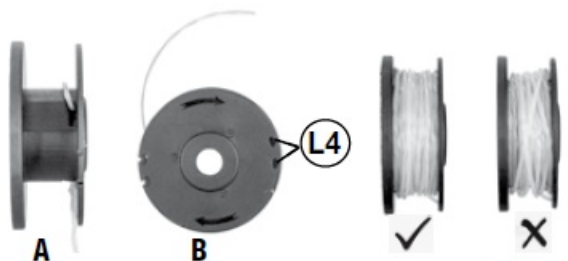

FIG 12
LINE REPLACEMENT (FIG 12)
5. Insert one end of the new line into the hole in the centre column of the spool (refer to FIG 12-A), then wind the line around the spool in the direction as shown on the spool. See FIG 12-B.
EDGING (FIG 12)